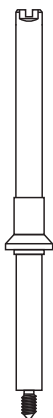

Figure 13 Mounting post (G4513-20561)
- 1 Install the ALS mounting post (Figure 13) to the instrument: